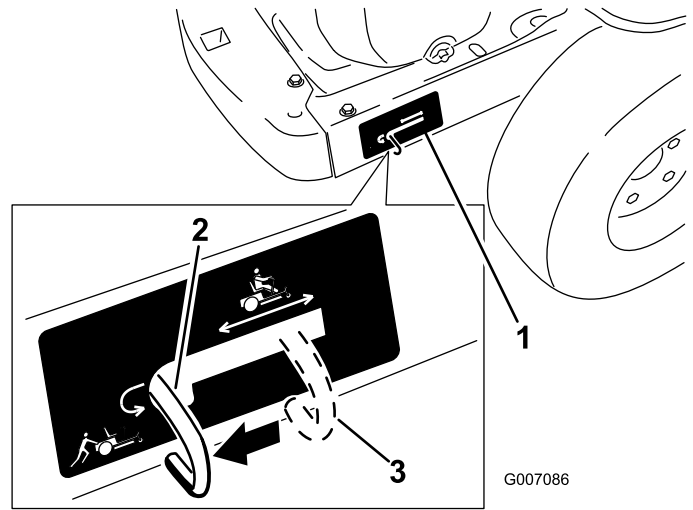

Figure 24
4. Move the bypass levers rearward and then down to lock them in place as shown in Figure 24 to disengage the wheel motors. Repeat this on each side of the machine.
Move the bypass levers upward and push them forward, to the **middle** of the horizontal slot (Figure 24) to engage the wheel motors.